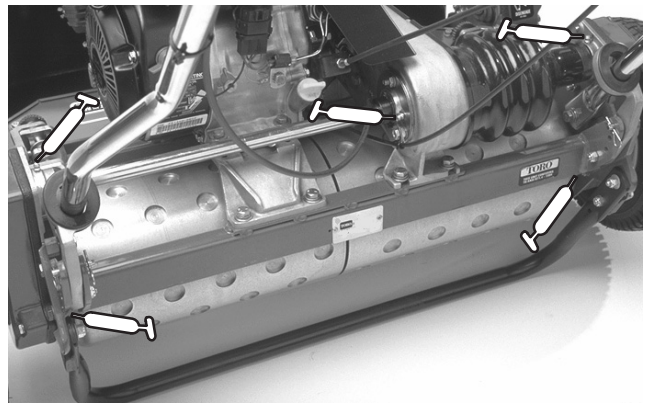

Figure 25
- 2 on the drum axles (Fig. 25)
- 3 on the differential (Fig. 25)